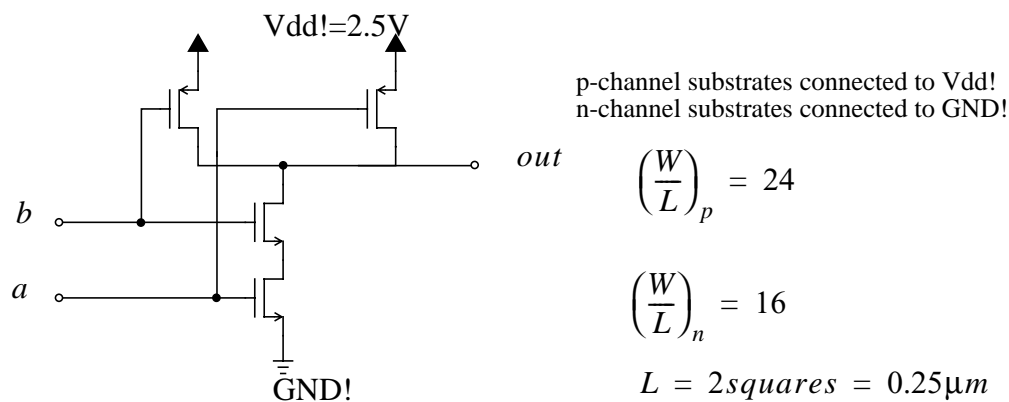
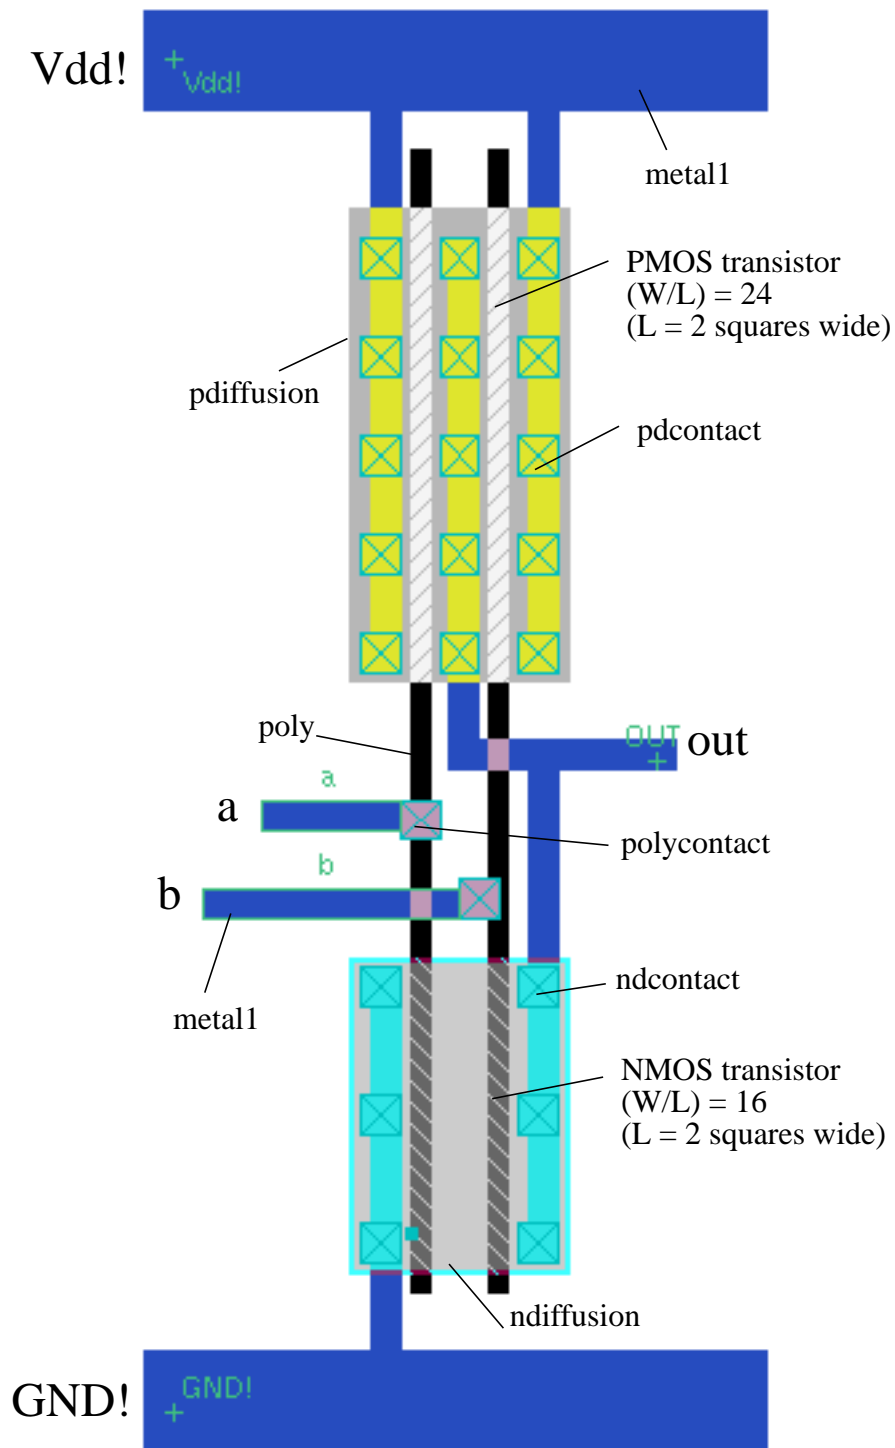

Figure 1: Schematic of 2-input NAND gate
Figure 2: Layout of 2-input NAND gate.
- P2) Using coloured markers (or pencils), draw a layout for a two-input NAND gate shown in Figure 1 ignoring the actual design-rule values and not using metal2. (Metal2 is often reserved for longer routing in which case it is not used in circuit cells.) Verify your stick diagram using the layout shown in Figure 2.
and use as your guide either your own layout stick diagram from the Preparation or the layout provided in Figure 2.
- layout of the 2-input NAND gate shown in Figure 1 (p. 1) of the lab handout
- schematic of the 2-input NAND gate (Figure 1) with parasitic capacitors in SUE
- In Figure 2 (p.2), please ignore the label "L = 2 squares wide", you don't need this information.
- Drawing the 2-input NAND gate layout in Figure 2, you don't have to match the number of contacts in transistors; only dimensions matters.
- Although 0.18um CMOS technology is used in the MAX tutorial, you have to use 0.25um technology in this lab. This is indicated by the transistor length of the NAND gate in Figure 1. To start MAX with 0.25um technology, simply type 'max'.